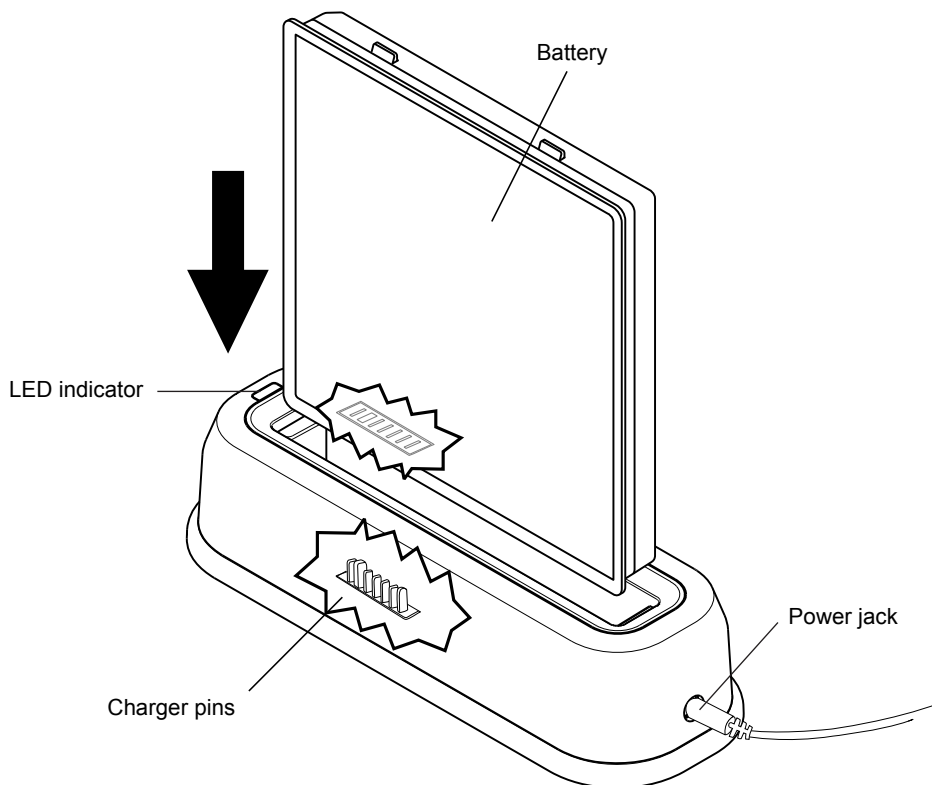

Figure 41. Using the battery charger.
2. Place the battery into the charger so the connector on the battery aligns with the charger pins (Figure 41).